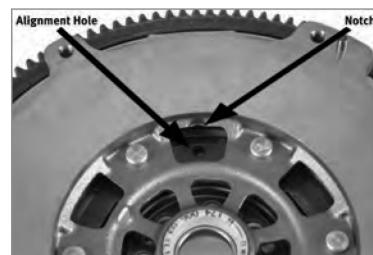

Figure 2
- This can be done by finding the locating hole and notch on the front side of the flywheel.(see Figure 2) When you have located the notch and hole on the front side, flip the flywheel over and find the same hole that goes all the way through the back side.